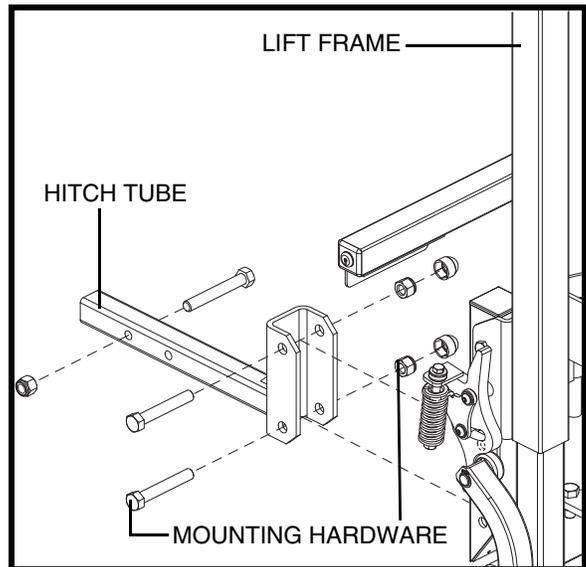

Figure 5. Hitch Tube Assembly
2. Mount the hitch tube to the lift frame using the previously removed mounting hardware. Install the hardware in the direction indicated in **figure 5**.